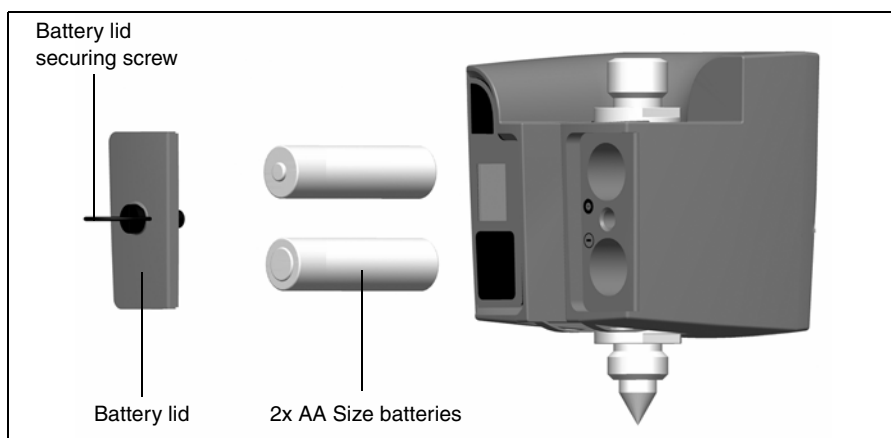

Figure 7.62 Target ID battery change
4. Fit the battery lid and then secure it by turning the screw a quarter of a turn clockwise. See figure 7.62